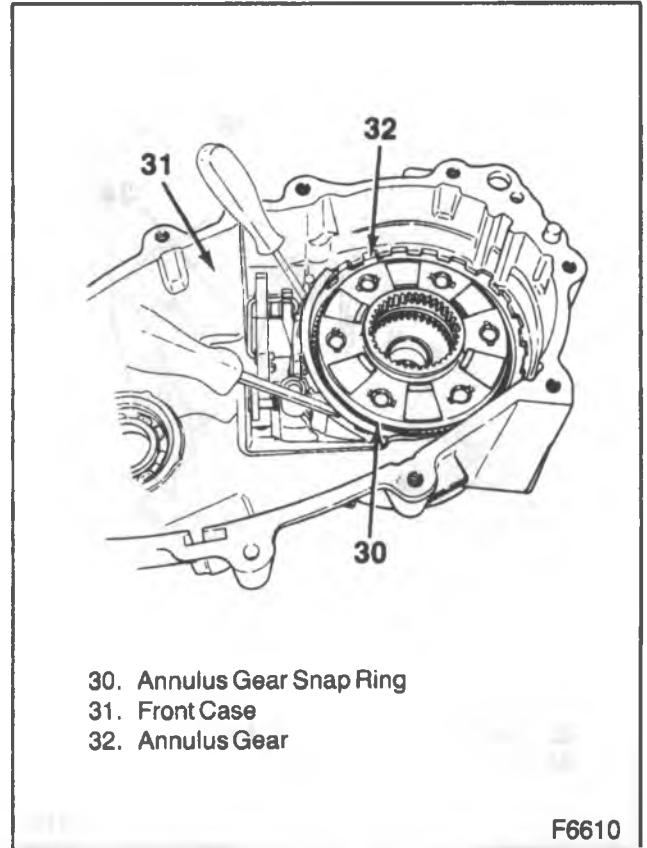

Figure 13—Removing the Annulus Gear Snap Ring
15. Annulus gear snap ring (30) to the front case (31) (figure 13).
16. Range fork (28) and shaft hub (29) aligning the shift hub to the carrier assembly and the shift fork pin to the slot in the sector (38).
17. Shift rail (9) through the range fork (28) and into the boss in the front case.